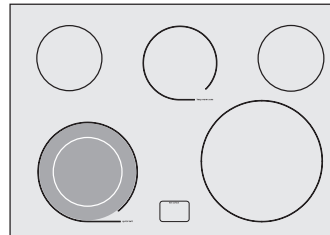
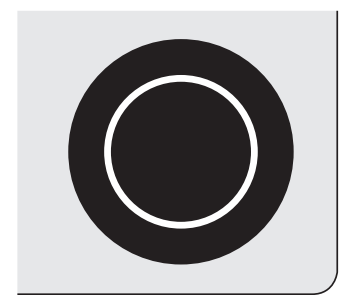

Figure 1 - Model A
Figure 5
The cooktop is equipped with 1 or 2 dual radiant surface elements located at the **left front** (Figures 1 & 2) and the **right front** (Figure 2) or the **right rear** (Figure 3) position. Symbols around the knob are used to indicate which coil of the dual radiant element will heat. The ● symbol indicates that only the inner coil will heat (Figure 4). The ⊙ symbol indicates that both inner and outer coils will heat (Figure 5). You may switch from either coil setting at any time during cooking.
2. Push in and turn the control knob to the inner coil symbol for smaller cookware (Figure 4) or to inner and outer coil symbol for larger cookware (Figure 5). Turn the knob to adjust the setting if needed. Start most cooking operations on a higher setting and then turn to a lower setting to finish cooking. Each surface element provides a constant amount of heat at each setting. A glowing red surface heating area extending beyond the bottom edge of the cookware indicates the cookware is **too small** for the surface heating area.